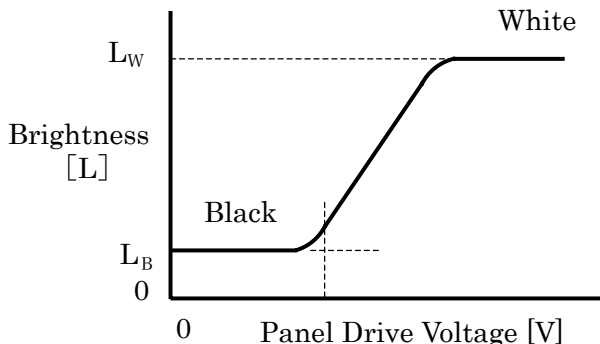

Fig.9-4. Voltage-Brightness Characteristics
Determined by Formula (1) based on Fig.9-4. Voltage-Brightness Characteristics.